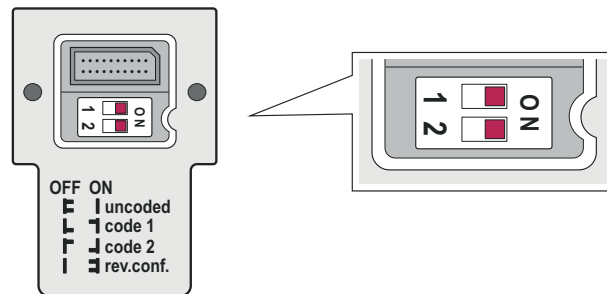

Figure 37: Reset to factory settings
3. Set both DIP switches to ON, see figure 37.